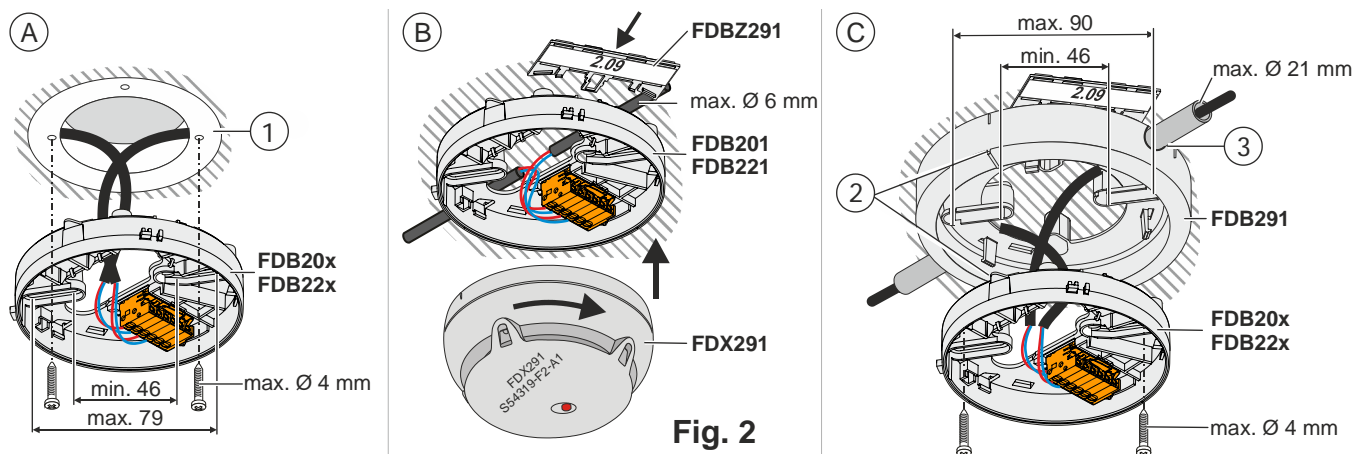

Fig. 2
2. Install the detector base (see Fig. 2).